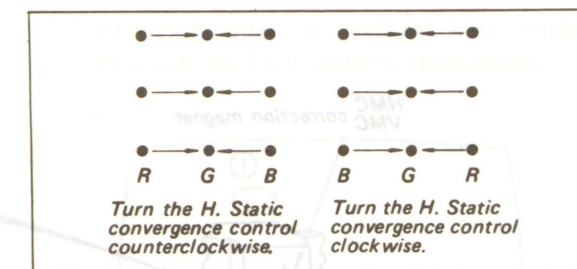

Fig. 4-4.
1. Adjust the horizontal static convergence control (H STAT) to converge the red dots and the blue dots with the green dots at the center of the screen. See Fig. 4-4.